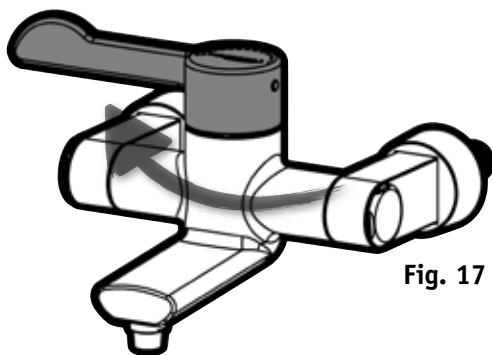

Fig. 17
- 1) Turn **HANDLE 1** to OFF position (**Fig. 17**)